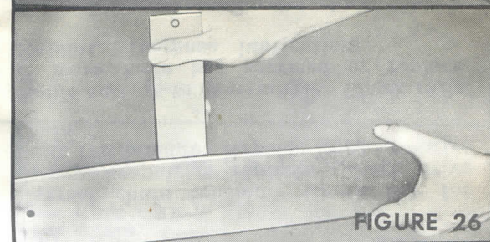

FIGURE 26
2. Front end of the cutter bar tool is marked to indicate the minimum safety depth of the bar groove to avoid the chain drive lugs riding on the bottom of the groove causing extensive chain and bar damage. (Figure 26).